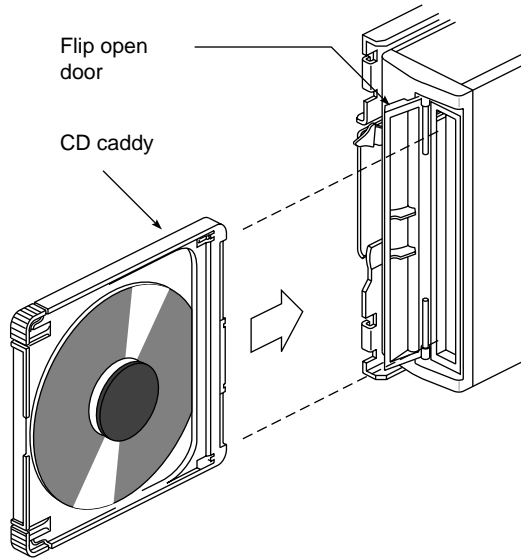

Figure 4-7 Inserting the CD and Caddy Into the Drive
7. Hold the caddy by its tabs with the arrow pointing toward the CD-ROM drive (see Figure 4-7).